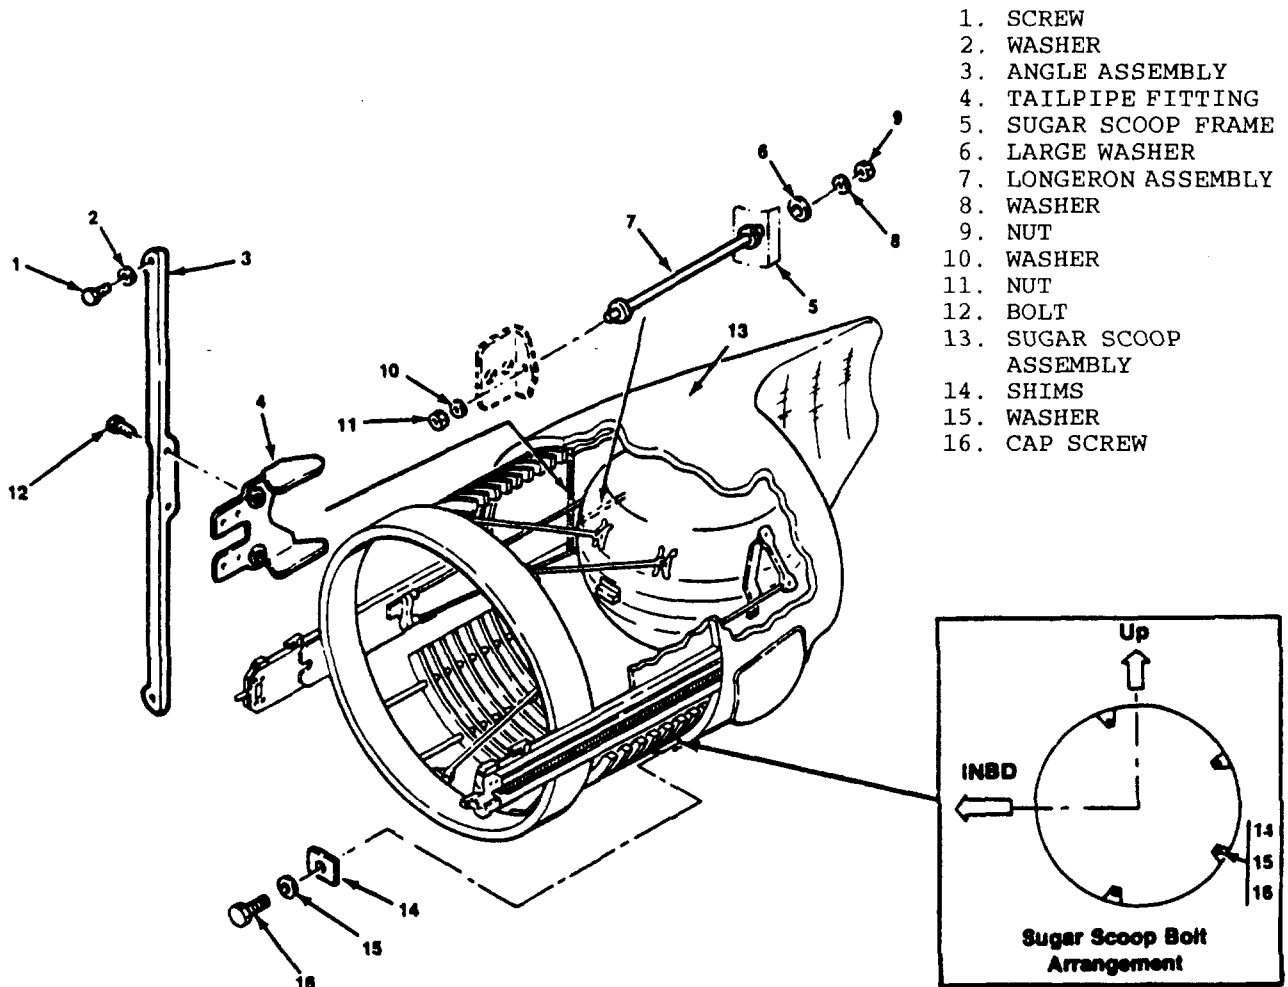

Figure 202 - Sugar Scoop Removal
\* See Figure 202, Section 78-30-08
- (b) In units equipped with 121468-3-1A and -4-1A pinion gearboxes, position the 3233190 "Vespel" slipper bearings on the pinion gearboxes (four per gearbox) and install the retaining tools to prevent loss/damage during translating structure installation. Do not use wax or grease. See Figure 202 Section 78-30-08.
- (e) Slide the translating structure onto the pinion gearboxes. Make certain that the translating structure beams surround the Vespel slippers as the translating structure moves forward. Remove the retaining tools as the "Vespel" slipper bearings are covered by the beams. See Figure 202, Section 78-30-08.
- (3) Sugar Scoop Installation. Install the sugar scoop per the following:
- (a) Install longeron assembly (7, Figure 202) into sugar scoop frame (5). Install large washer (6) and washer (8), secure with nut (9).
- (b) Place sugar scoop in position, guiding longeron through hole in tailpipe flange. Install shims (14) as required (see insert) and washer (15). Secure with cap screw (16). Use shims removed during disassembly. Make certain to install them in the same location. Secure longeron to tailpipe flange with washer (10) and nut (11).
- (c) Place angle assembly (3) in position. Secure to tailpipe fitting (4) with two bolts (12).
- (d) Secure top and bottom of angle assembly with a screw (1) and washer (2).
- (e) Translate the translating structure forward and ensure the aft nacelle and sugar scoop are true within .000 to .030. Re-shim as necessary using shims (14).